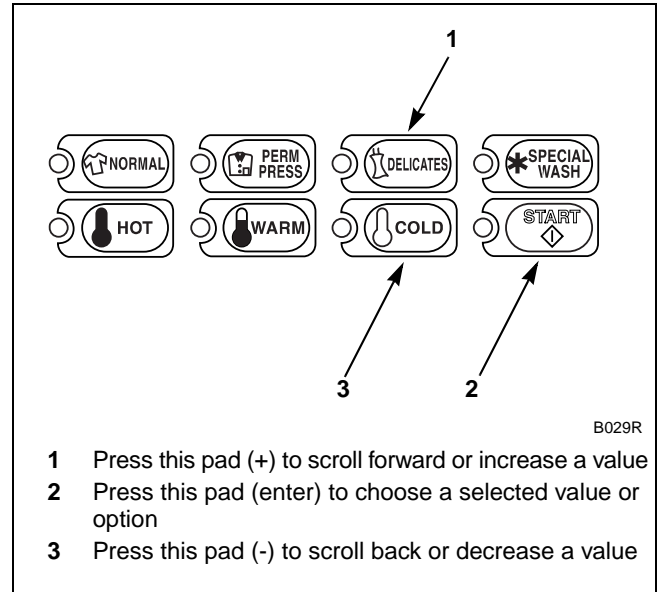

Figure 161
5. Press the DELICATES (+) or the COLD (-) keypad to increase or decrease the current output value displayed in the VFD to the desired output value. Refer to *Figure 161*.